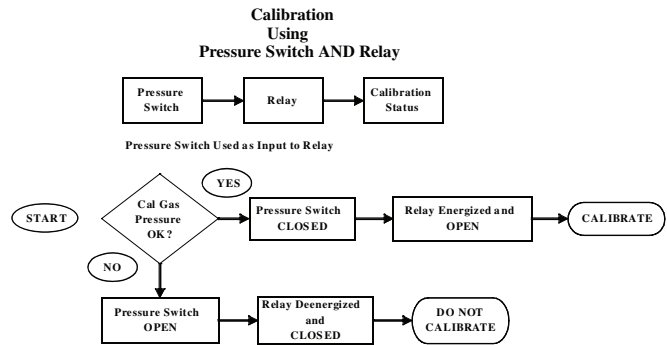

Figure 4.2: Calibration Using Pressure Switch and Relay Flow Chart
The relay switch is designed to OPEN when energized as depicted in the flow diagram shown in Figure 4.2. A pressure switch input completes the 120 VAC signal used to energize the relay, which is wired at the calibration unit as Normally Open (NO), where Open = Low or Zero tank pressure. The AC4/AC8 unit is prewired with the jumper in place, so that the relay will be energized and OPEN. However, if the pressure switch input is used, then remove the jumper between the terminals labeled PS at the calibration unit's terminal strip, and attach the pressure switch. The pressure switch is wired as normally open.